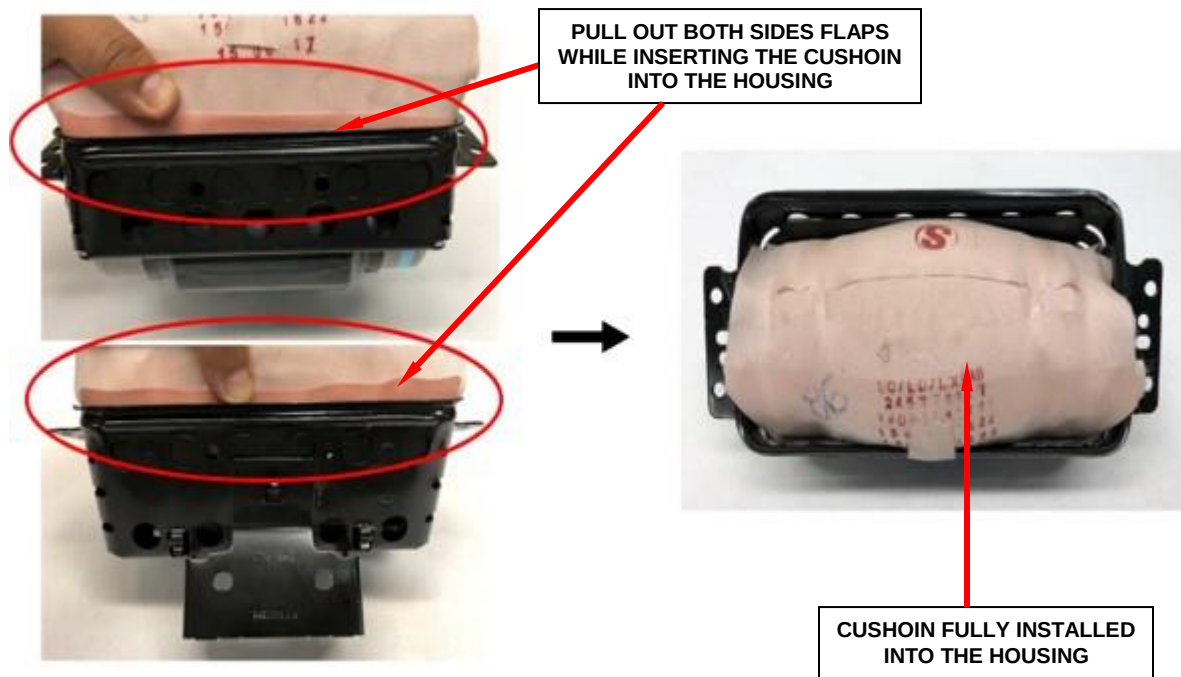

Figure 80 – Side Flaps Must Be Held Out
- i. Insert the cushion, pulling out both side flaps (Figure 80).